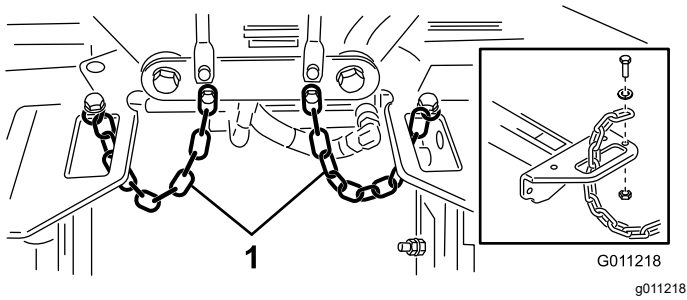

Figure 21
4. Route a tipper chain up through the slot on the end of each carrier frame. Secure the tipper chain to the top of the carrier frame with a bolt, a washer, and a locknut (Figure 21).